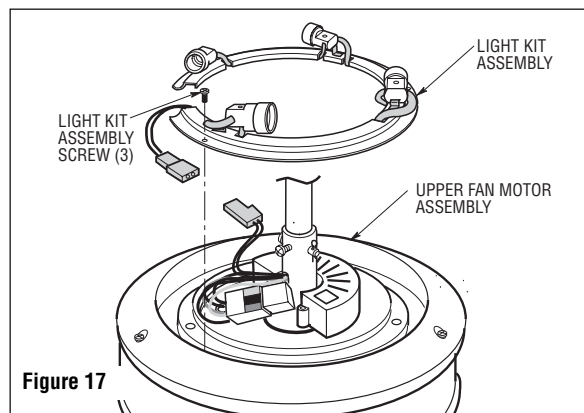

Figure 17
2. Position the light kit assembly so that the opening of the light kit assembly slides through the downrod. Align the mounting holes of the light kit assembly to the motor assembly (Figure 17).
3. Install the light kit assembly to the motor assembly using three light kit assembly mounting screws (Figure 17).